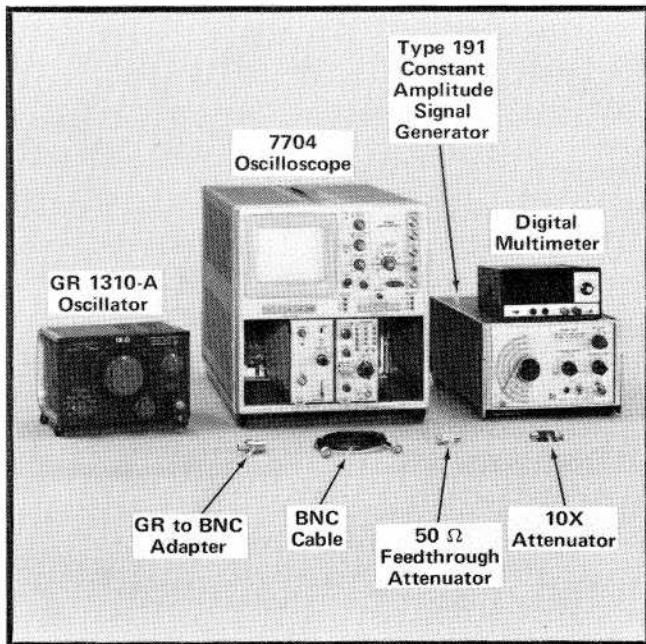

Fig. 5-6. Test equipment required for steps 13 through 17.
a. Test equipment required for steps 13 through 18 is shown in Fig. 5-6.